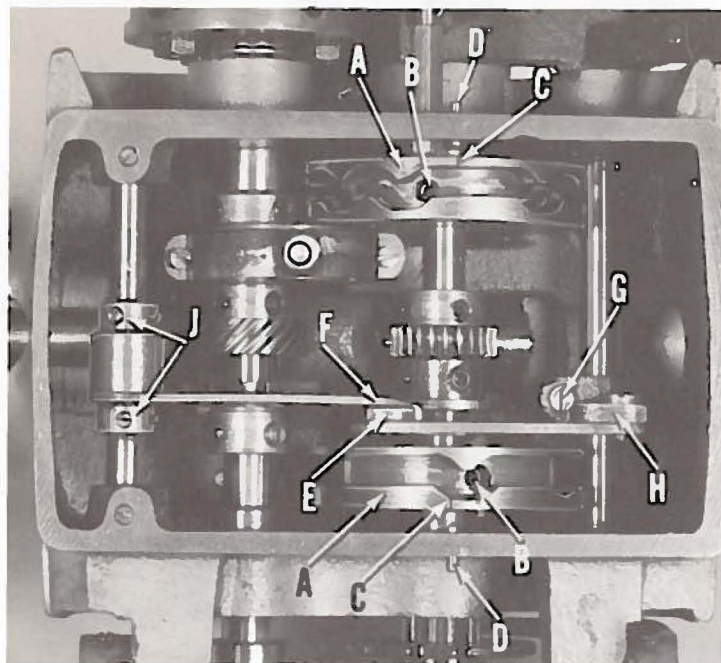

Fig. 4
Turn pulley in operating direction until first screws in cams (A, Fig. 4) coming into view are accessible and loosen these two screws. Continue to turn pulley in operating direction until machine is again in stop position and screws (B) are in view.
The tacking clamp lifting link (E, Fig. 4) is in proper position, when, with the machine in stop position, the lip on the fork lever (F) is engaged in the slot of the link.